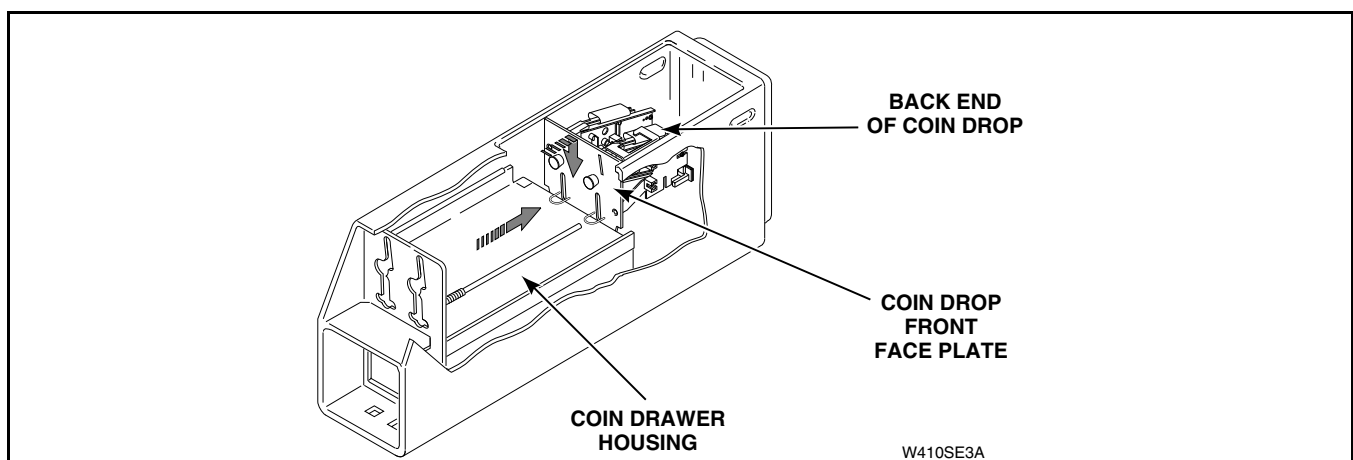

Figure 17
- (8) Lift back end of coin drop and pull straight back until bottom edge of the drop's front face plate falls behind the coin drawer housing. Refer to *Figure 17*.